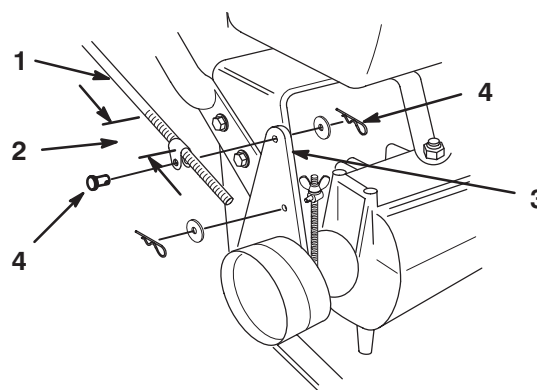

Figure 5
- Thread rod fittings equal distance onto each control rod. For a starting point, thread fittings on approximately 1-3/4 in. (44 mm) from the start of the threads (Fig. 5).
- Slide clevis pins through rod fittings and mounting holes in idler brackets (from outside) (Fig. 5). Secure with washers and hairpin cotter (Fig. 5).